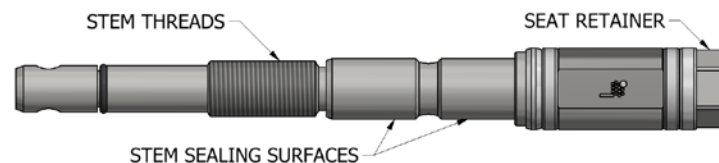

Figure 16 – Stem Sealing Surface
- 11.2 Apply O-ring lube to stem sealing surfaces. See Figure 16.